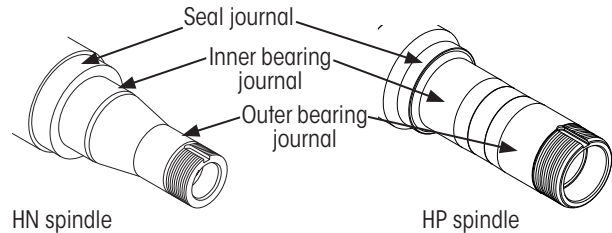

Figure 7: Spindle seal & bearing journals
2. **Inspect** machined spindle journals (Figure 7) for nicks, scratches, burrs or marks. If needed, use crocus cloth or emery cloth to repair any damaged areas.
NOTE: While sliding hub onto spindle, grease is collected at the spindle seal journal inboard of the hub (Figure 7 on page 9). This may be later interpreted as a grease leak and should be cleaned.